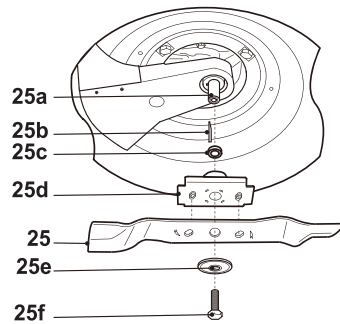

Fig. 21
1. Keep the underbody and cutting device (25) clean and free of debris. Remove clippings from the discharge chute (26).
3. Keep the cutting device (25) sharp to ensure a good cutting performance. Replace a worn or damaged cutting device with a new one of the same type or have it sharpened by a qualified specialist.
4. Loosen the hex bolt (25f) anti-clockwise using a suitable wrench and remove it together with the locking flange (25e), cutting device (25), support (25d), ring (25c) and pin (25b) (Fig. 21).